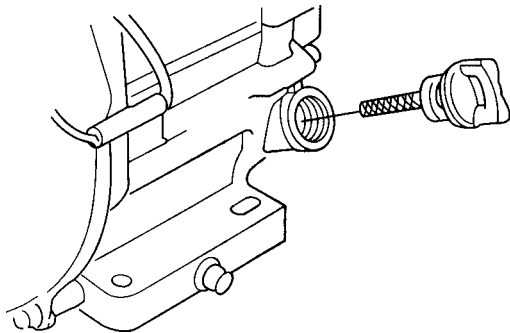

Figure 7. Engine Oil Dipstick (Removal)
2. Remove the filler dipstick from the engine oil filler hole (Figure 7) and wipe clean.